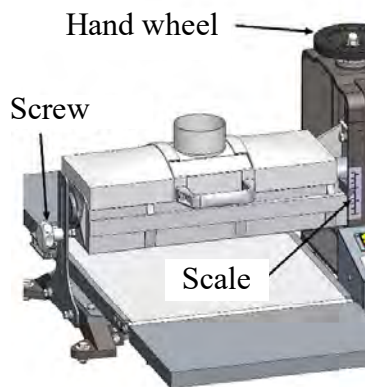

Fig. 14: Height adjustment
Step 1: Loosen the clamping screw (Fig.14).
Step 3: Once the correct cutting depth for your operation is set, retighten the clamping screw (Fig.14).